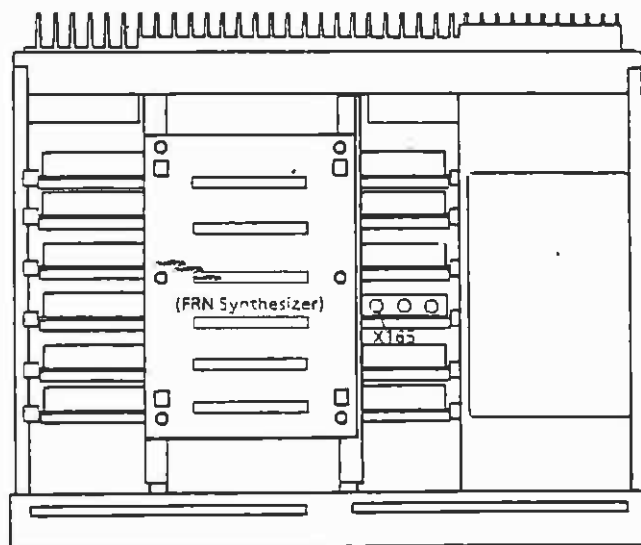

Fig. 4-1 Location of the socket X165 (instrument seen from below)
- ▶ Connect the frequency counter (error $< 1 \times 10^{-6}$) to the socket X165 (fig. 4-1)